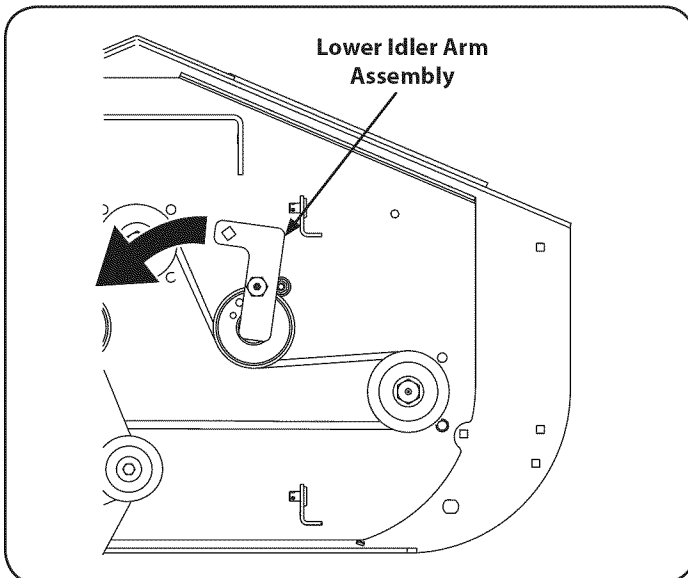

Figure 38
3. Using a 3/8" socket breaker bar or socket ratchet insert the drive end into the 3/8" square opening in the lower idler arm assembly and push the idler arm counterclockwise. See Figure 38. While holding the idler arm back, loosen the deck belt from the pulley and slide the belt away from the pulley.